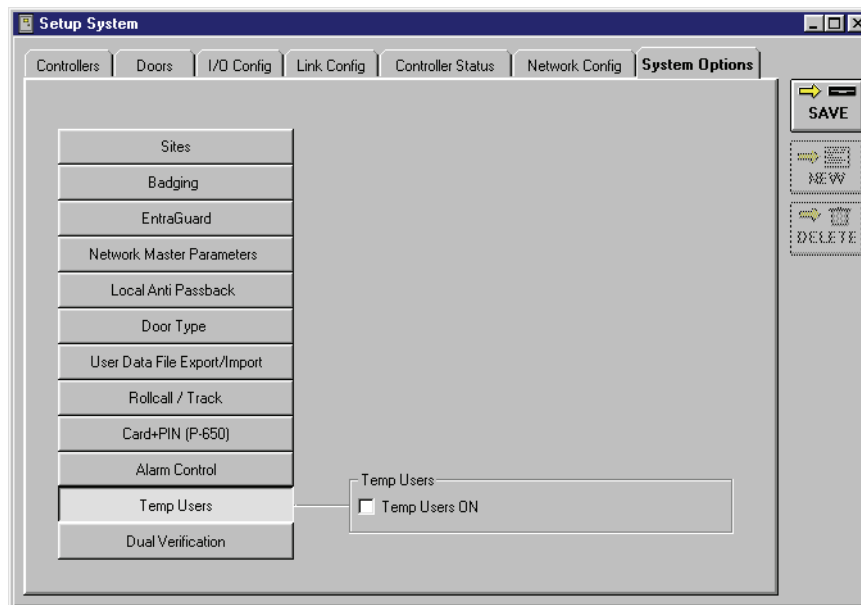

Figure 13-1: System Options Tab - Temp Users Disabled
The Temp Users ON check box is used to enable the temp users feature (see Figure 13-1). The temp users feature allows an operator to set activation and expiration dates for the future. Once that pre-assigned date and time is reached, the controllers will either allow entry (if a pre-set activation date and time was set) or deny entry (if a pre-set expiration date and time has been set).
2. Click on the  button. The System Options window will reveal the field for enabling temp users (see Figure 13-1).
3. Click the  button. All the temp users related database fields are now removed and the system options window returns to its original state (see Figure 13-1 on page 3 of this section).